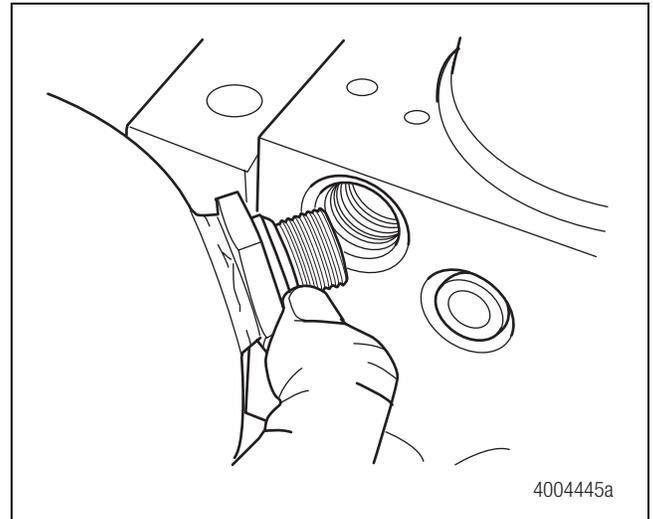

Figure 4.17
3. Place the new accumulator and O-ring into the counterbore. After positioning, use a torque wrench with a strap wrench attachment to tighten to 43.4-50 ft-lb (60-70 N•m). Do not overtighten. Figure 4.17. **ⓘ**